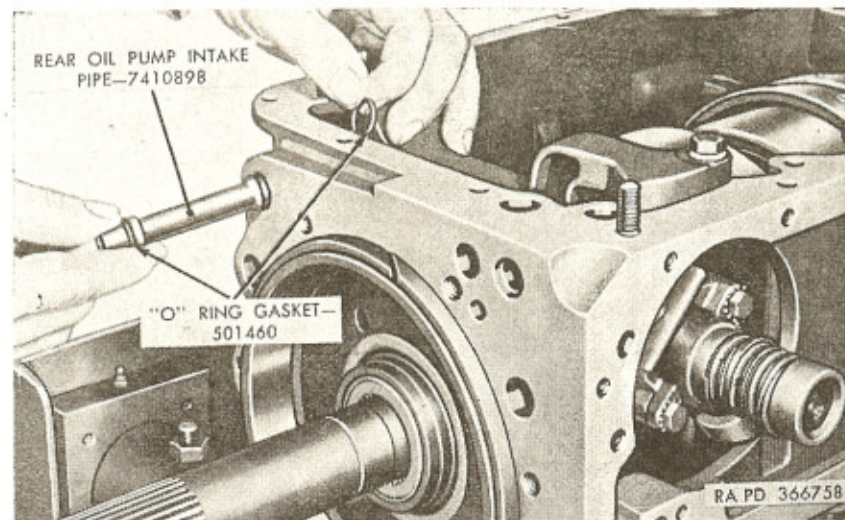

Figure 195. Installing rear oil pump intake pipe (303M).
c. On 303M transmission only, insert one end of rear oil pump intake pipe (fig. 195) through passage at rear of transmission case. Install new O-ring gasket on inner end of intake pipe. Press pipe firmly into rear oil pump. Install another new O-ring gasket over outer end of intake pipe.